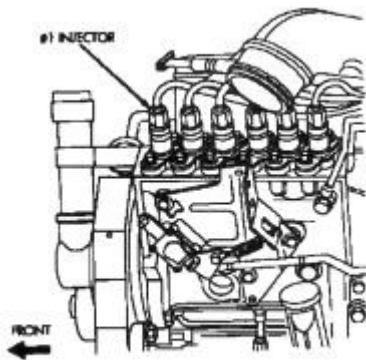

Figure 4
3. Remove #1 fuel injection line from the fuel injection pump (Figure 4), using 7/8" open end wrench.